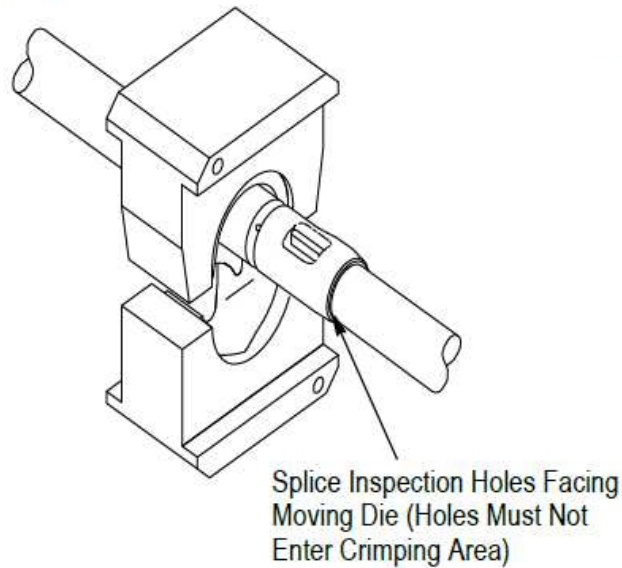

Figure 5
- To crimp the other half of the butt splice, rotate the splice or power unit 180 degrees, making sure that the splice is properly positioned as described in Step 2 and Figure 5.